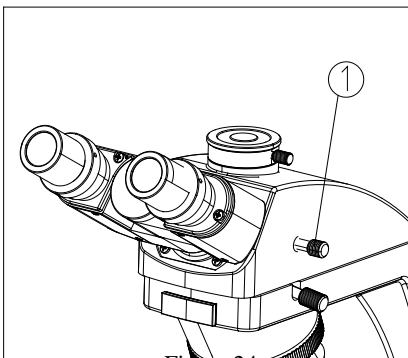

Figure 24
The light path selecting lever①controls the direction of the light path between the eyepieces and camera port. When lever①is inserted, 100% of the light is directed to the eyepieces binocular fully; when lever①is pulled out, the light is split between the eyepieces (80%) and camera port (20%). (Figure 24)